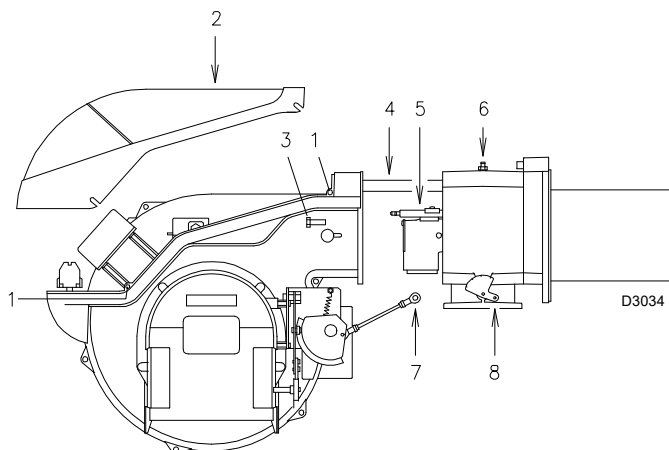

Fig. 39
- Loosen the screws 1) and remove the hood 2)(Fig. 39).
Now it is possible to extract the gas distributor 5) after having removed the screw 6)(Fig. 39).
- Replace the screws 3)(Fig. 39) and carefully pull the probe and electrode cables outwards until they are slightly taut.
- Reconnect the articulated coupling 7)(Fig. 39) to the graduated sector 8)(Fig. 39).
- Disassemble the two extensions from the slide bars 4)(Fig. 39).